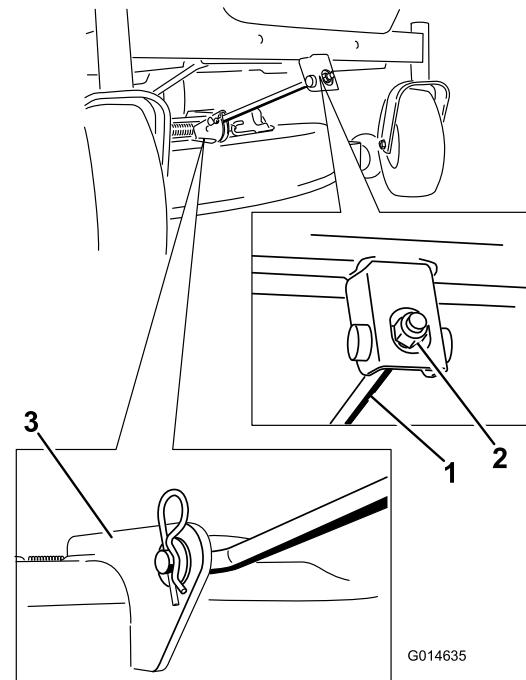

Figure 61
6. Attach the front support rod to the mower deck with the clevis pin and hairpin-cotter pin (Figure 61).